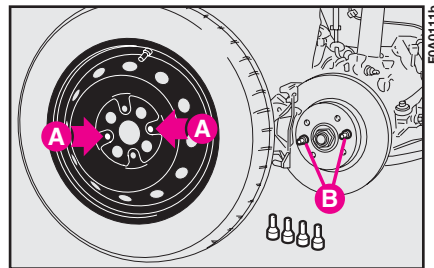

fig. 10
**16)** Fit the spare wheel making the holes **A**-fig. 10 coincide with the respective centring pins **B**.